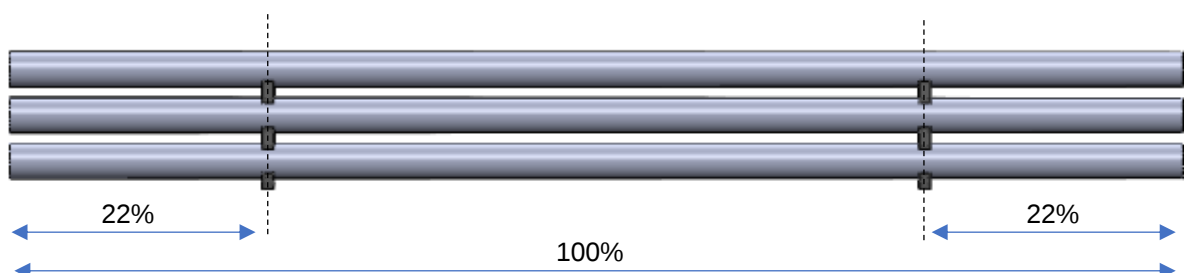

Figure 4. Spacing the Pipe Carrier Premium parts
- Take the corresponding Base-Carriers for the pipe diameter and place them parallel to each other on even ground, when using two supporting Base-Carriers place them on both ends at 22% of the whole pipe length as shown in Figure 4.